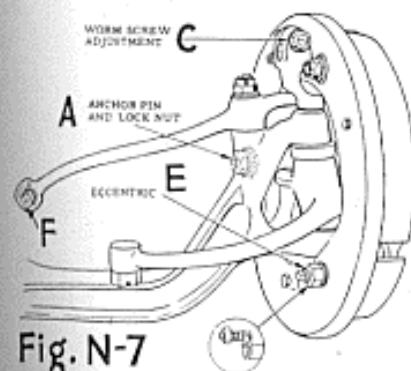

Fig. N7. Lever control front brake with worm screw type adjustment
In the Bendix lever control, the brake cam is actuated by a control lever attached to the axle of the vehicle. One end of this control lever is ball shaped and bears against a small lever attached to the camshaft, as shown in Fig. N7. The other end of the control is operated by the brake pull rod.
1. With all wheels jacked up turn the nuts (F, Fig. N-7-A) on ends of front pull rods until center line of ball on operating lever is $\frac{1}{4}$ in. to $\frac{5}{16}$ in. back of the center line of the steering king pin, with brakes in released position. See Figs. N7 and N8.
4. Now turn the cam lever wormscrew "C," Fig. N7) or button adjustment ("B," Fig. N7A) until wheel binds, then back off until wheel just turns freely. Tighten locknut. Do operations described in paragraphs 2, 3 and 4 to the other front wheel.
8. To adjust anchors: Turn eccentric adjustment (See Fig. N7, Page 47) away from articulating pin and leave loose. Slacken off on anchor pin nuts (Fig. N12), then tap both anchors
On the cam and plate type eleven-inch diameter brake there is only one adjustable anchor pin. This is the secondary anchor pin—the auxiliary pin stopping short of the backing plate and not being attached thereto. In this case the auxiliary pin forms an articulating joint between the secondary and auxiliary shoes. Shoe anchor pin construction of the eleven-inch brake is shown in Figs. N7, Page 47, and N13.
- Loosen anchor nut A (Fig. N7, Page 47) about one turn. **Do the same to other 3 wheels.**
- Turn eccentric adjustment (Fig. N7, Page 47) away from articulating pin (by turning it in opposite direction to that in which wheel revolves when car moves forward) until wheel spins freely. **Do the same to other 3 wheels.**